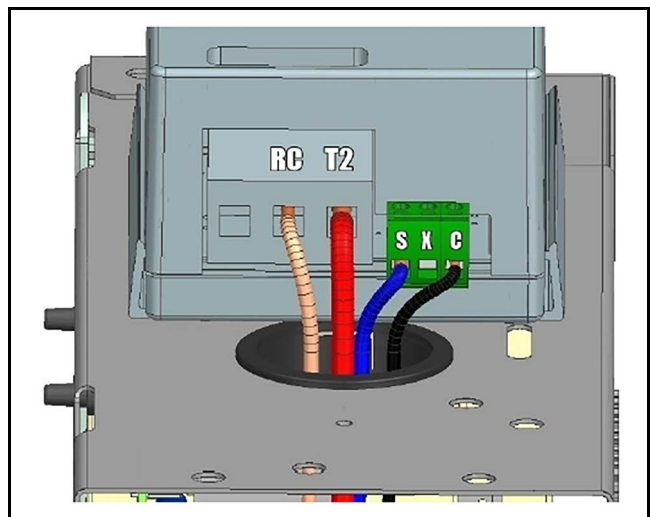

Fig. 12 Smart Start Assist Terminations (SM)
2. Locate Smart Start harness provided with the kit, and route harness wires through hole in top of the electrical box. Refer to Fig. 12.
3. Perform the following at the Smart Start Assist module terminals, using Smart Start harness (See Fig. 12):